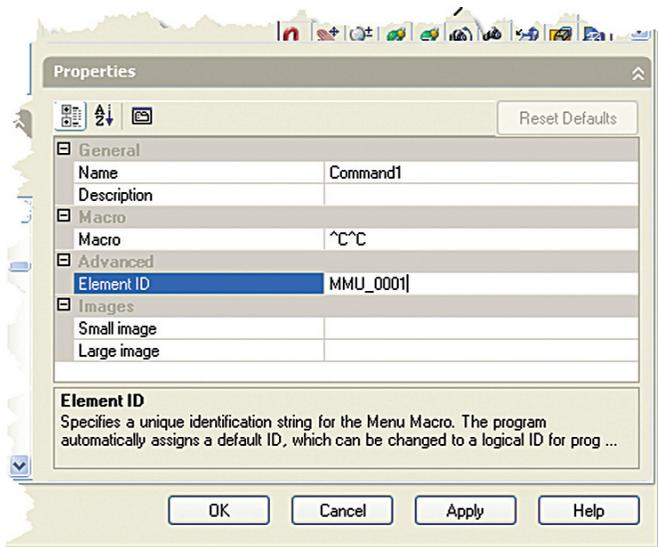

Figure 4
4. The Properties pane will display the default values for the new command, which isn't much of anything right now (see Figure 4, next page).